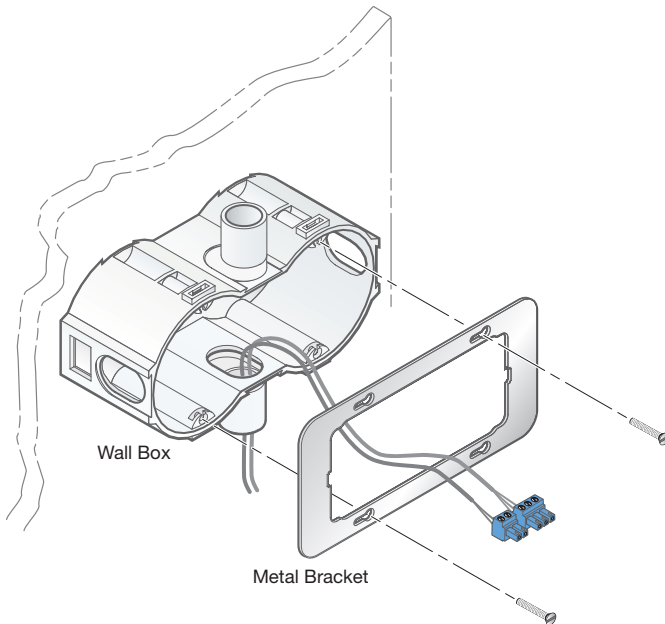

Figure 5. Mounting the Bracket to an EU Wall Box
- c. Insert the provided screws into those holes, hold the bracket to ensure it is aligned straight (visually level), and tighten the screws to secure the bracket to the mounting surface (see figures 5 and 6).